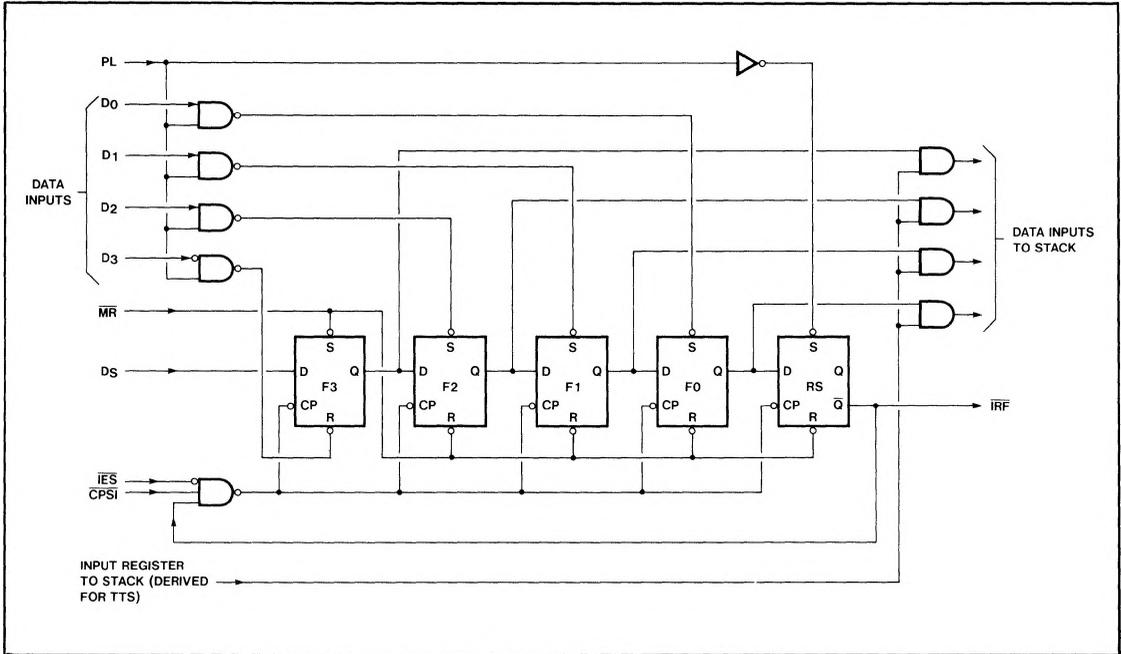

Figure 2. Functional Equivalent of Input Register
the functional equivalent of this register is shown in Figure 2. The Input Register Full (IRF) status signal is internally generated by the Register Status (RS) flip-flop; when initialized, the \bar{Q} (IRF) output of this flip-flop is high.
When PL is high and \overline{CPSI} is low (Figure 2), flip-flops F0-F3 are loaded with data and $\bar{I}RF$ is forced low. This condition remains until current data is transferred to the stack. Once the data is transferred, $\bar{I}RF$ is driven high and new data can again be clocked into the input flip-flops. If parallel expansion is not being implemented, $\bar{I}ES$ must be low to establish row mastership—refer to discussion of parallel expansion
As shown in Figure 2, the outputs of F0-F3 are applied to the stack under control of a signal derived from TTS. When TTS is low, an attempt to initiate a fall-through action is made. If the top location of stack is empty, data is loaded and the input register is re-initialized provided PL is low. Note that initialization is postponed until PL is again low. Thus, automatic FIFO action is achieved by connecting the TTS input to the IRF output.
The RS flip-flop (Figure 2) records the fact that data has been transferred to the stack; this flip-flop is not cleared until PL goes low. Therefore, if a particular data word is transferred to the stack and falls to the second location before PL goes low, the same word will not be re-transferred even though IRF and TTS are still low. Once data enters the stack, "fall-through" is automatic; a delay is necessary only when waiting for the next stack location to empty. In the 9403, as in most modern FIFO designs, the MR input initializes the stack control section and does not clear the data.